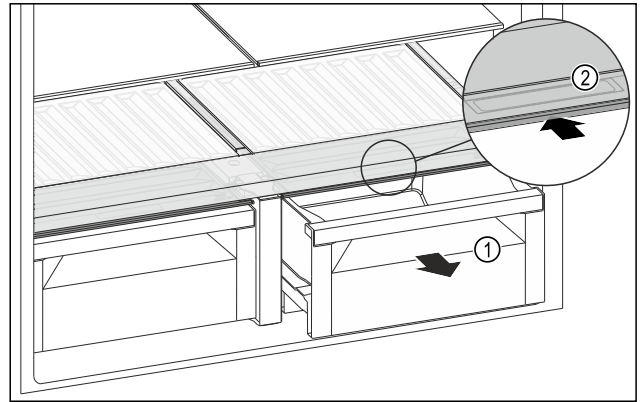

Fig. 142
- Pull out the drawer Fig. 142 (1).
- Grip the handle recess Fig. 142 (2) on the lid while pulling the lid backward at the same time.